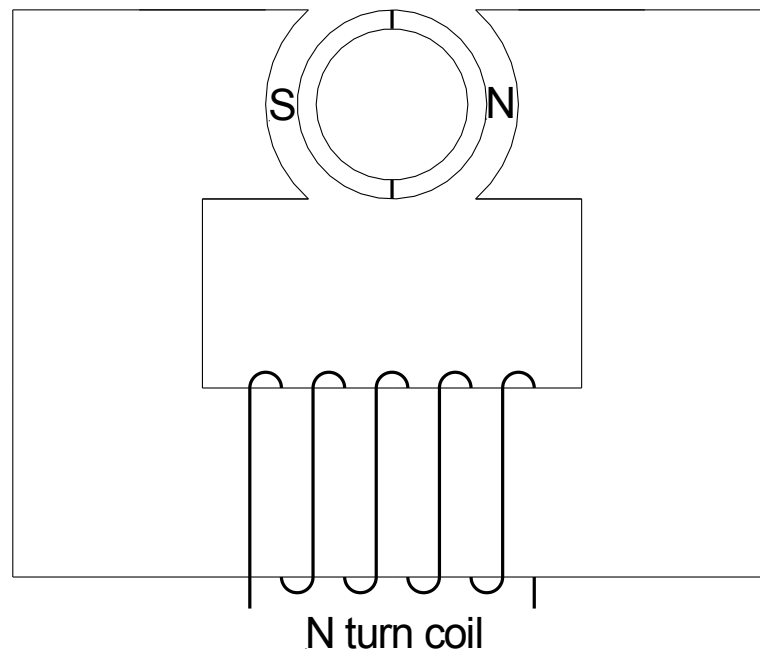

Figure 4a Schematic of a single-phase permanent magnet brushless machine
4. Figure 4a shows a schematic of a low-cost, single-phase, two-pole brushless permanent magnet motor which is used in a rechargeable shaver. The machine is driven from a 12V battery supply via a power electronic converter. Under normal operating conditions, the motor is driven by the power electronic converter in a mode that produces a $180^\circ(\text{elec})$ wide square-wave currents of alternating polarity which are synchronised to the rotor angular position.